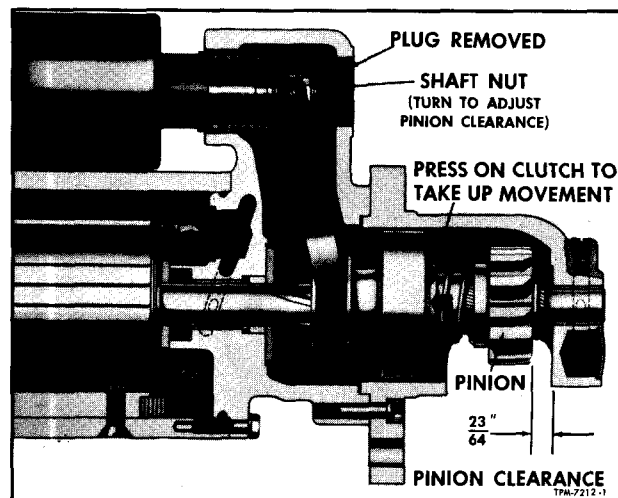

Figure 7 --Measuring Pinion Clearance (Heavy Duty)
2. Press on clutch to take up movement and measure distance from outer edge of pinion to inner edge of nose housing. See figure 7. Dimension should be $\frac{23}{64}$ - $\frac{1}{32}$ -inch.